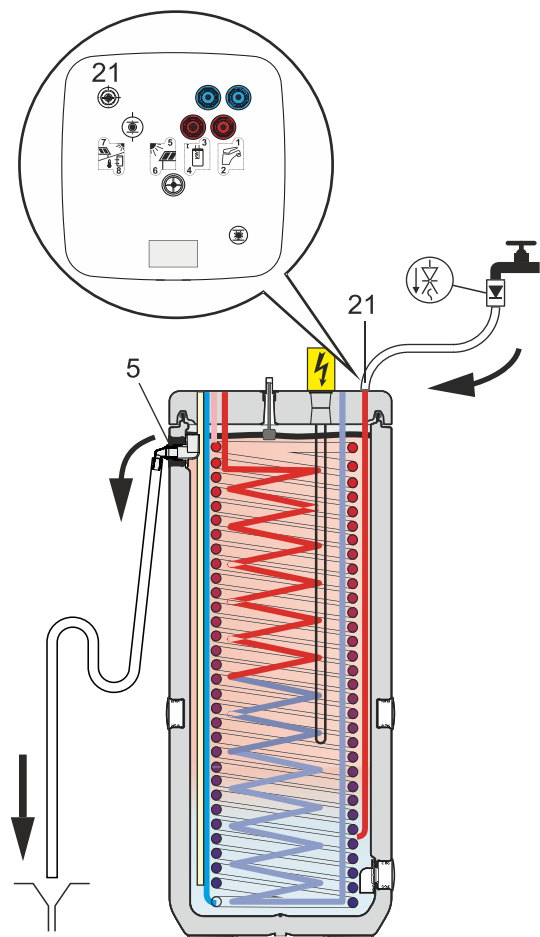

Fig. 4-4 Filling the buffer storage tank - without p=0 solar system and without KFE filling connection
- Connect the filling hose with non-return valve (1/2") to the "DrainBack - feed" connection (fig. 4-4, item 21).
- Fill the storage tank on the Daikin EKHWP / EKHWC **until water comes out of the safety overflow** (fig. 4-4, item 5).
- Fill the storage tank on the Daikin EKHWD **until water comes out of the safety overflow** (fig. 4-4, item 5).